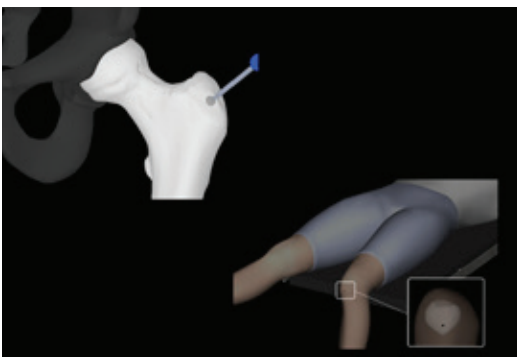

Figure 3
- 2b. Capture both the proximal and distal landmarks with the leg flexed at 90 degrees, ensuring that the femur remains stable between captures (Figure 3). Next, capture and verify the pelvic checkpoint. Once the checkpoints are captured, resect the femoral neck and remove the femoral head.